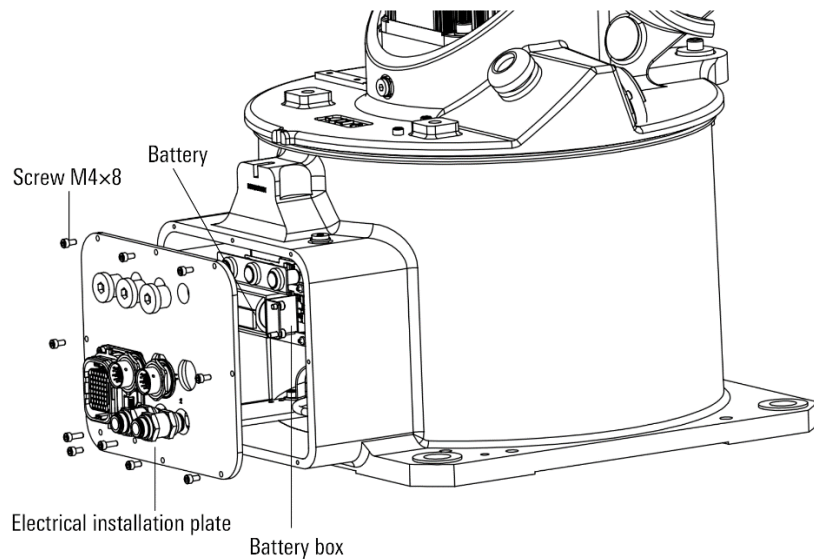

Figure 12-5 Electrical installation panel of small and heavy load disassembly manipulator
- Step3. Remove the electrical installation board of the operator and remove the battery box, as shown in Figure 12-5.